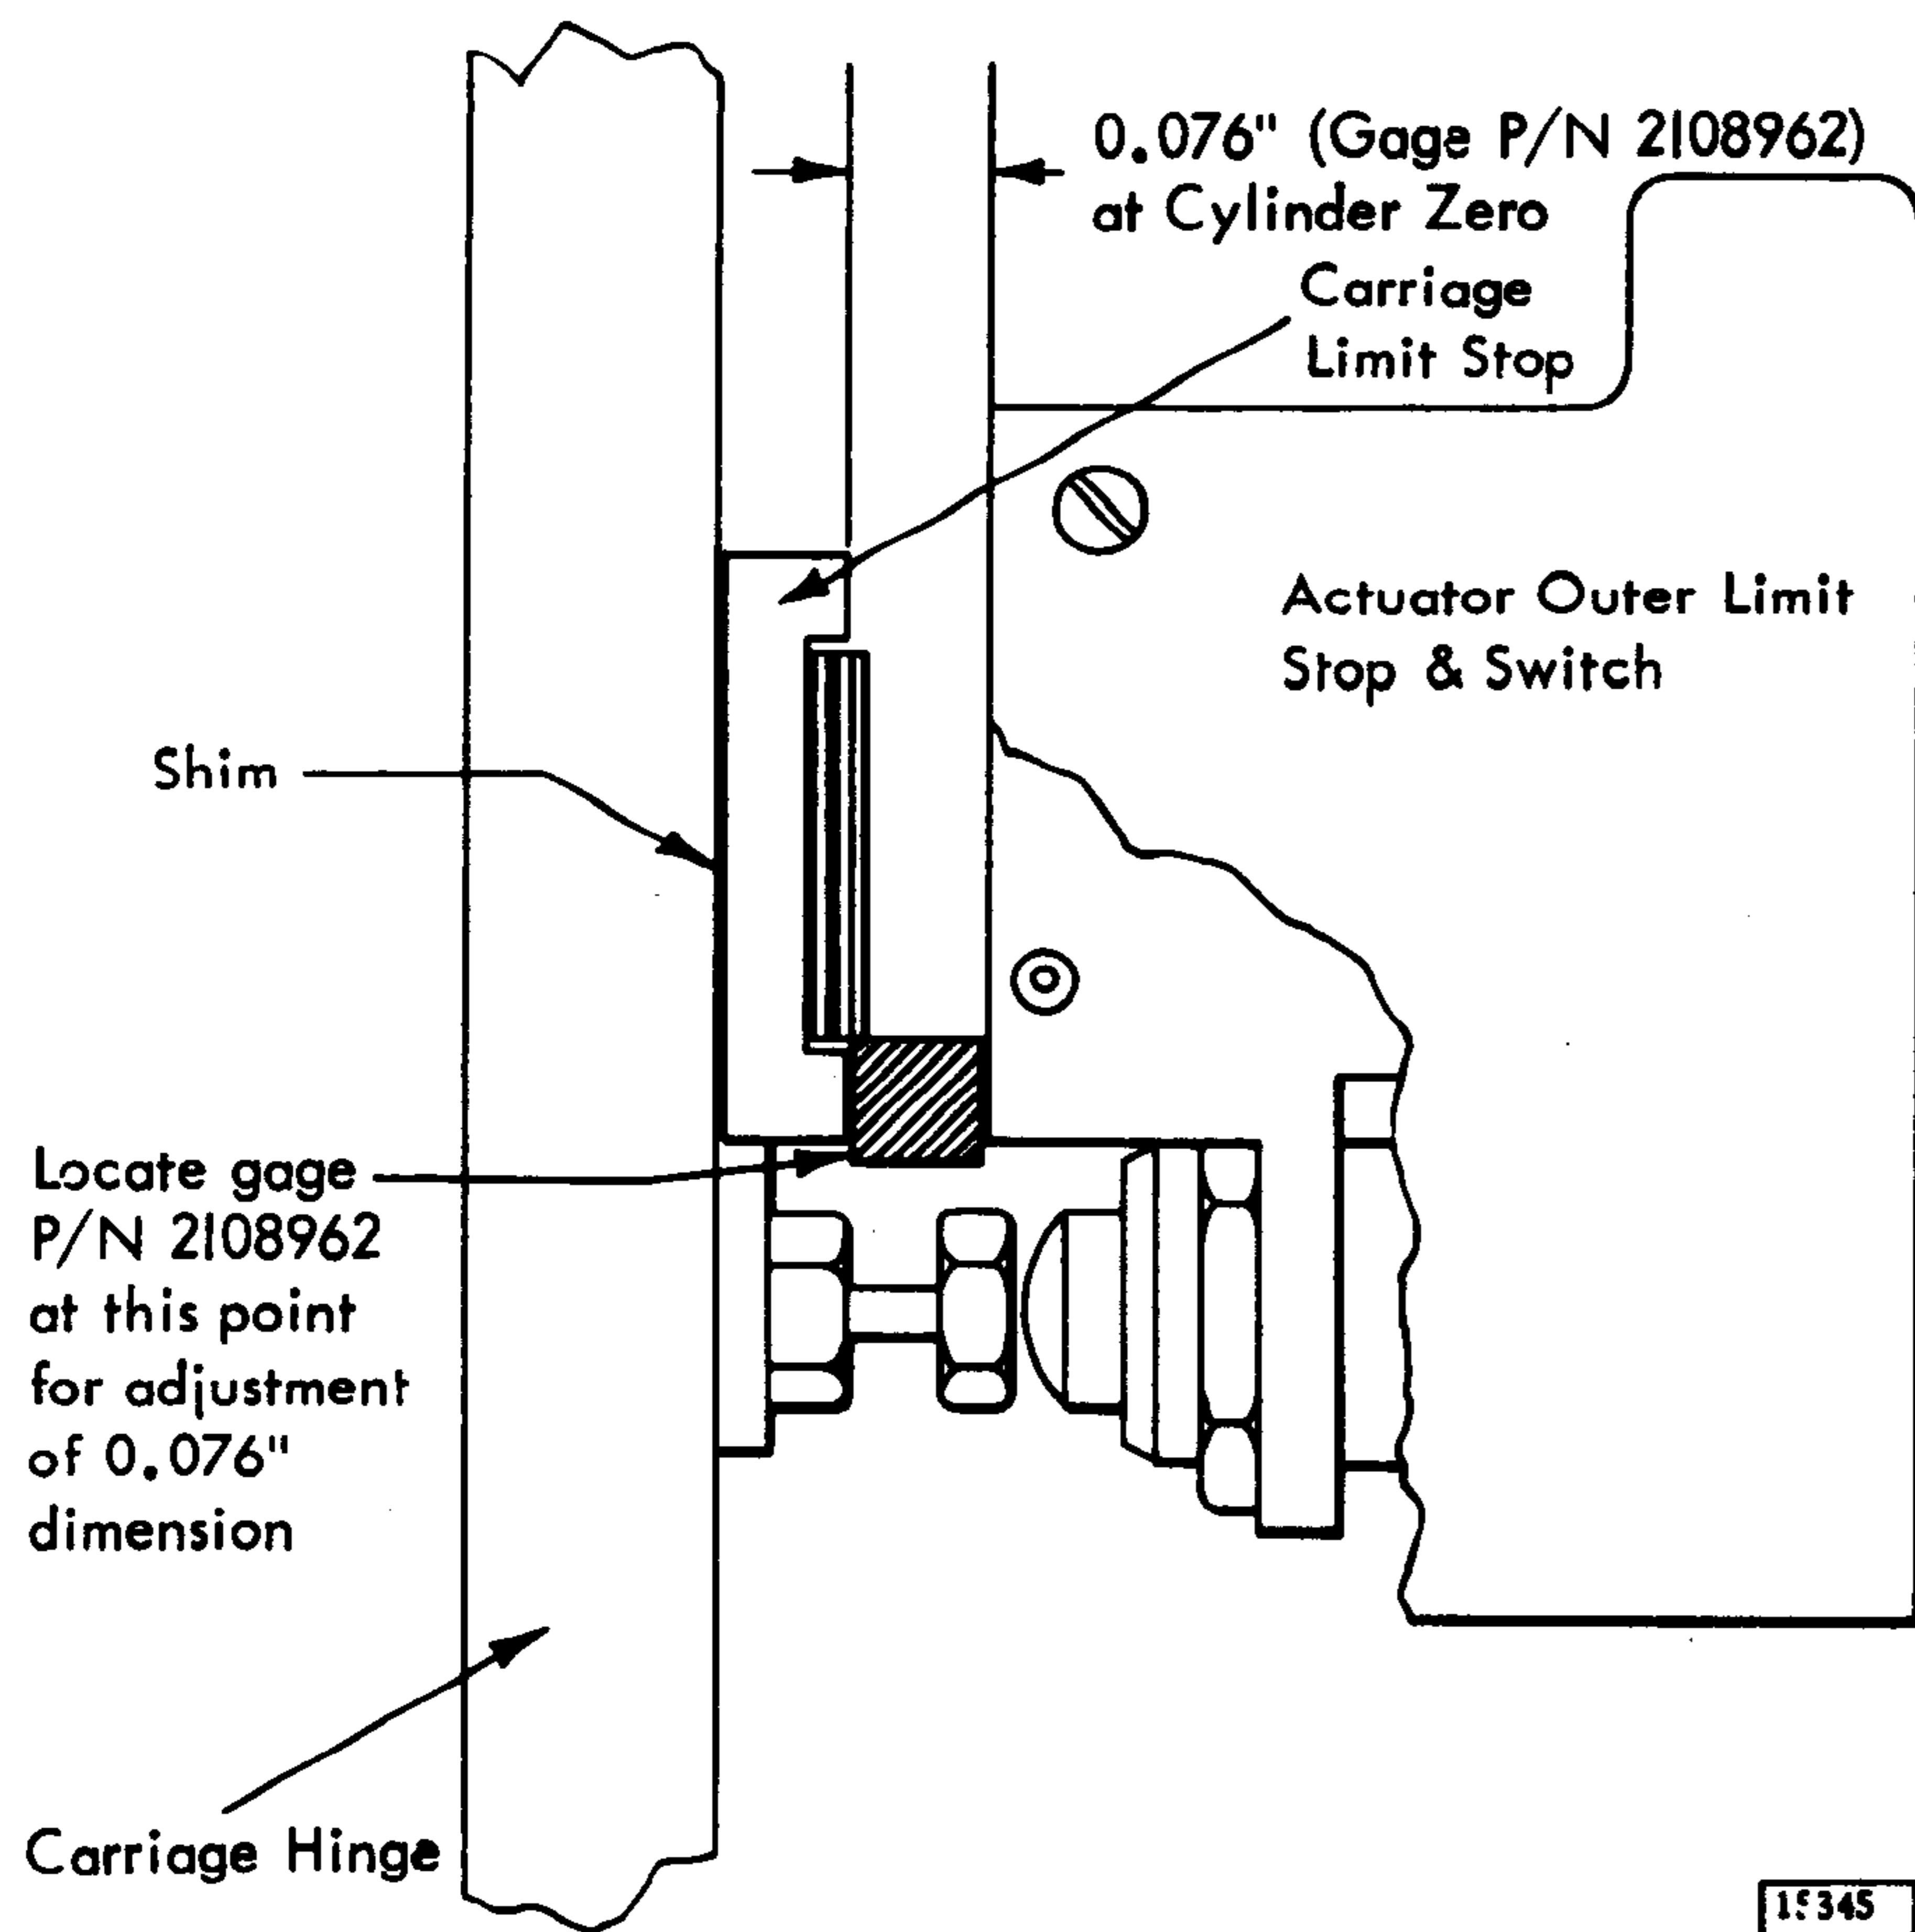

Figure 4-31. Carriage Outer Limit Stop and Switch Adjustment
4.12.2.2 Removal (Figure 4-31)
The outer limit stop, in addition to providing a mounting for the outer and inner limit switches, establishes the basic actuator reference for head-to-disk relationship through the 0.076-inch gap (Figure 4-31). The 0.076-inch dimension is set with Gage P/N 2108962 at the time of final assembly, and the disk surface analysis is made with this gage setting. If this dimensional relationship should be altered by moving the yoke adjustment (differential) screw, or the flexure rod setting, the relationship may be re-established by resetting the 0.076-inch dimension. This can be accomplished with the yoke adjustment screw provided the outer limit stop has not been moved.
2. Place U-shaped Gage P/N 2108791 between outer limit stop and carriage limit stop. While pressing lightly against gage with outer limit stop, fasten outer limit stop just tight enough to hold. Now insert Gage P/N 2108962 in the position shown in Figure 4-31.